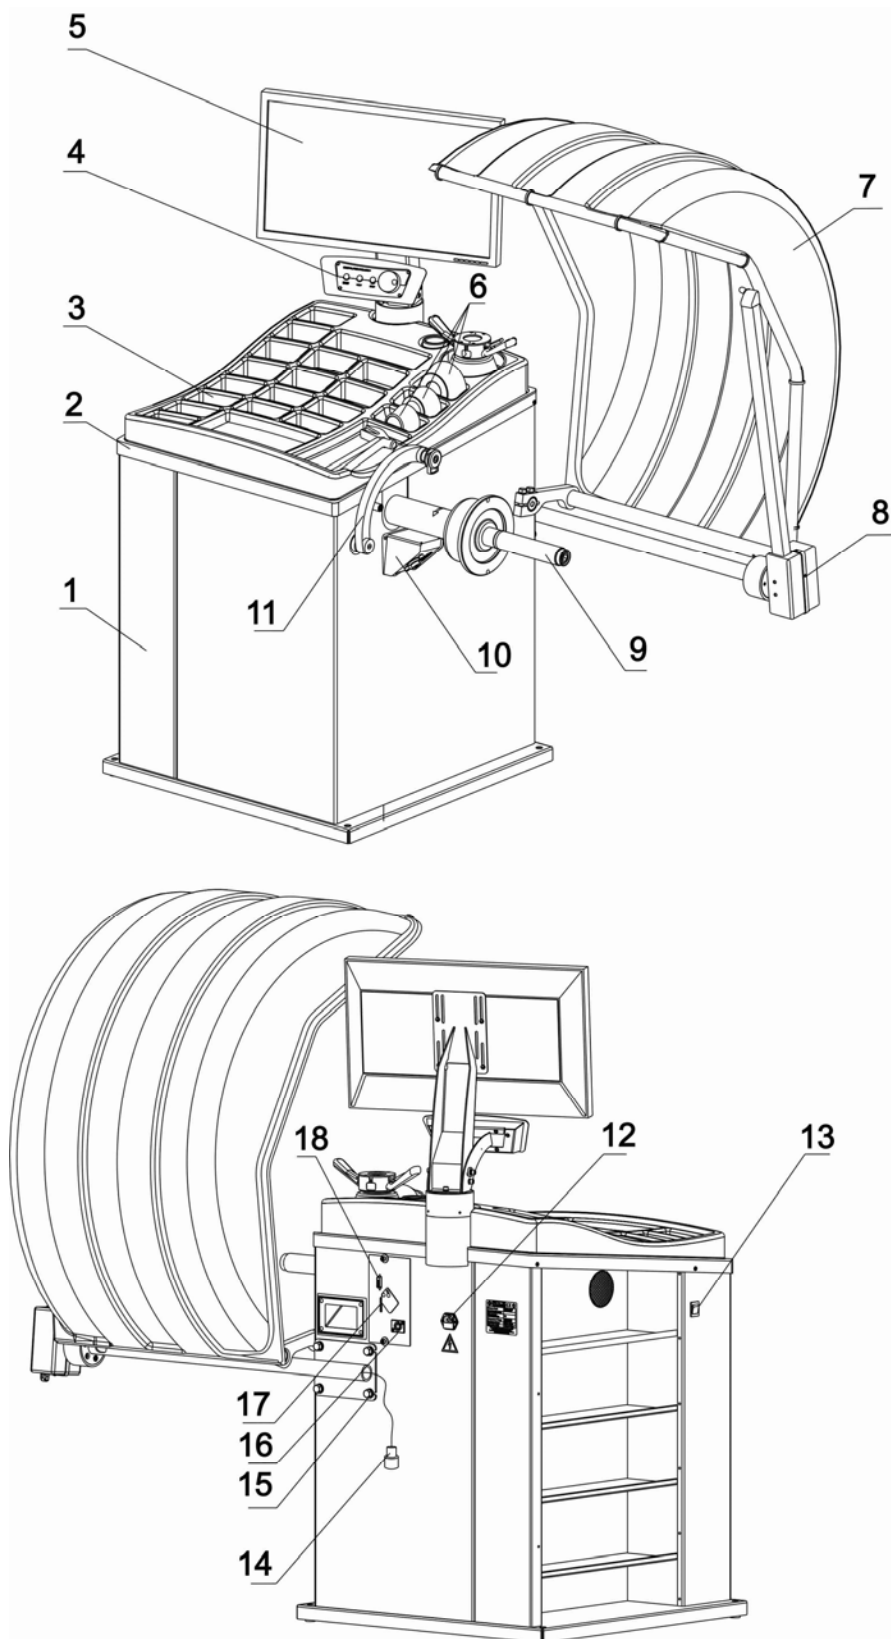
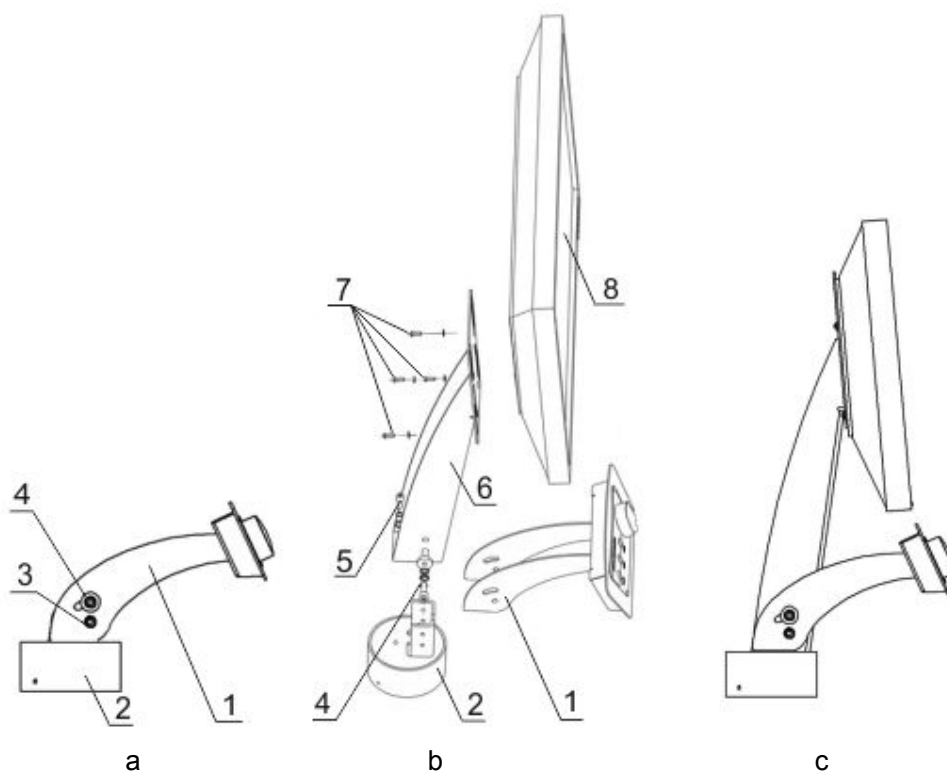

Figure 4.1
Figure 4.4
4.2.6 Fasten the bracket of the gauge arm by four bolts with a spring washer and washer. Plug the electric connector of the gauge arm to the socket on the machine body (Figure 4.1).
① While dismantling, press the pusher for the connector deactivation.
4.2.7 Set monitor in accordance with Figure 4.4:
- plug DVI cable to monitor socket and jack 18 on machine body, shown on Figure 4.1.
4.2.9 Connect the power supply wire to the machine jack, located on the rear panel of the machine body (Figure 4.1) and to the supply mains equipped with the mains socket with the grounding contact. Connect monitor to supply mains, equipped with the mains socket with the grounding contact according to maintenance documentation.